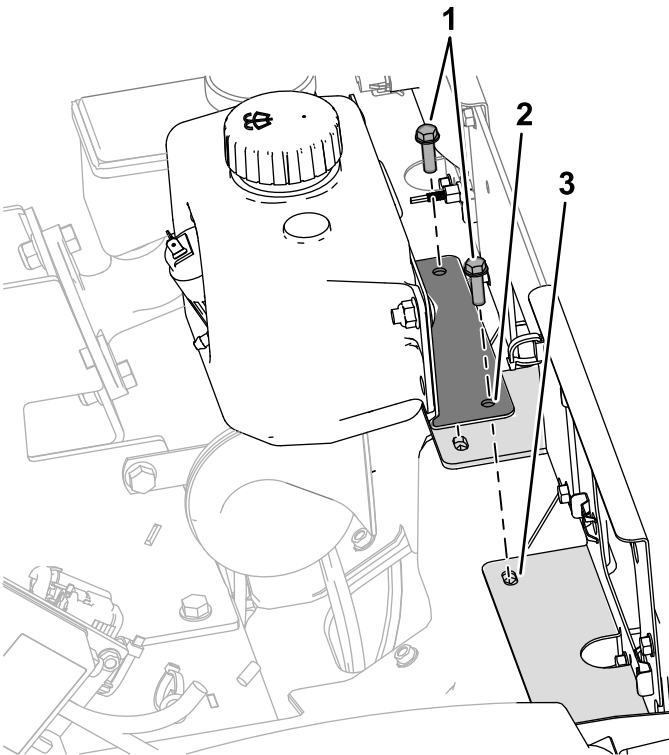

Figure 37
4. Align the holes in the washer bottle mount bracket with the holes in the lower headlight support (Figure 37).
- Assemble the tank-support bracket to the lower headlight support with the 2 hex washer head bolts (1/4 x 7/8 inch) that were removed in step 3 (Figure 37).